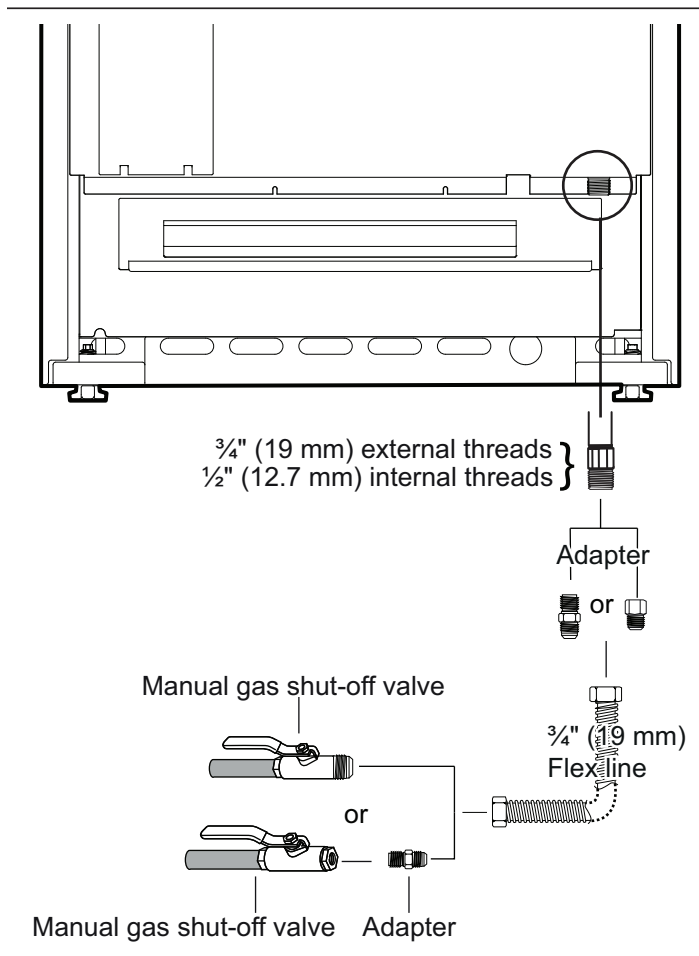

Figure 9: Gas Supply Connection
- Use a 3/4" (19 mm) flex line to connect between the gas supply and the appliance gas inlet. The gas supply line connection is located at the lower right portion of all range models (see *Figure 9*). The appliance gas inlet connection is 1/2" (12.7 mm) NPT.